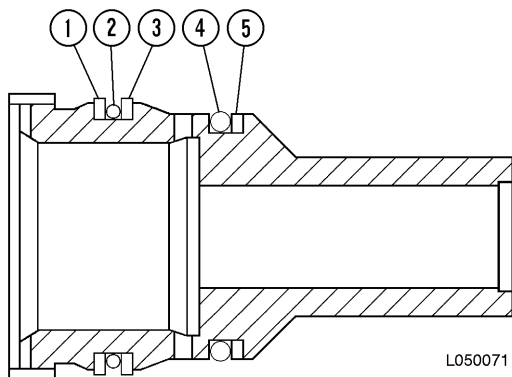

FIGURE 6-14. O-RING LOCATION ON PISTON SLEEVE
30. Install backup ring (1, Figure 6-14), O-ring (2) and back-up ring (3) in rearmost groove on the piston sleeve. Install O-ring (4) and backup ring (5) in the remaining groove.